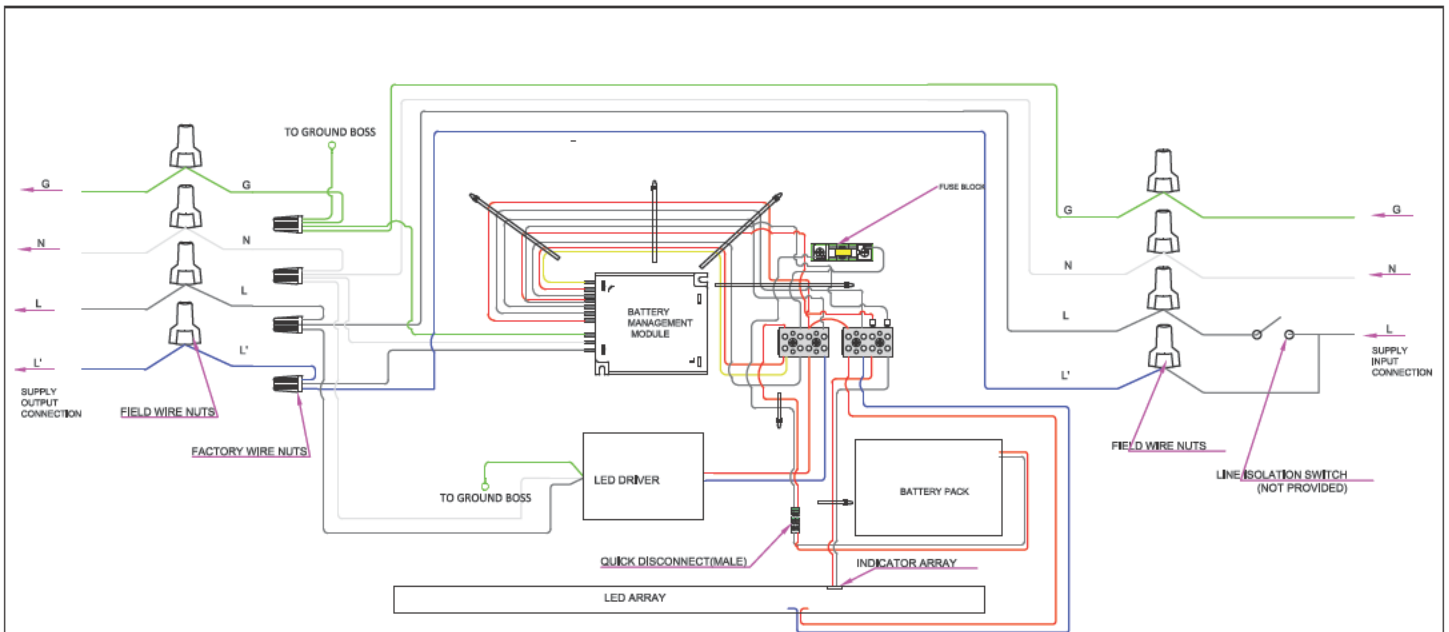

FIGURE 8A: WIRING DIAGRAM FOR 2 FT LUMINAIRE - THROUGH FEED WIRING - 4 WIRE CONNECTION
- D. For 4 Wire connection method, split the incoming Line wire into 2 branches, one will be connected directly to L' Wire nut (to provide continuous battery charging) and other need to be connected to L Via a switch (Not provided). Connect the incoming Neutral and Ground into N and G wire nut respectively as shown in Wiring diagram. (See Figures 8A and 8C.)
- H. Insert Output supply wires from right side NPT hole and connect to the respective wire nuts marked with L, L' , N , G. For wiring diagram refer to Figures 8A,8B, 8C and 8D.